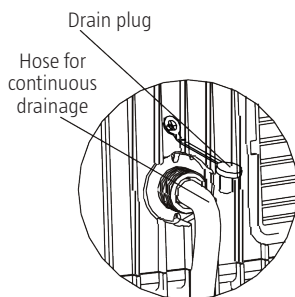

Fig. 22
- Remove the drain plug on the back of the appliance and connect a hose. Lead the hose to a suitable drain (fig. 22 and 23).